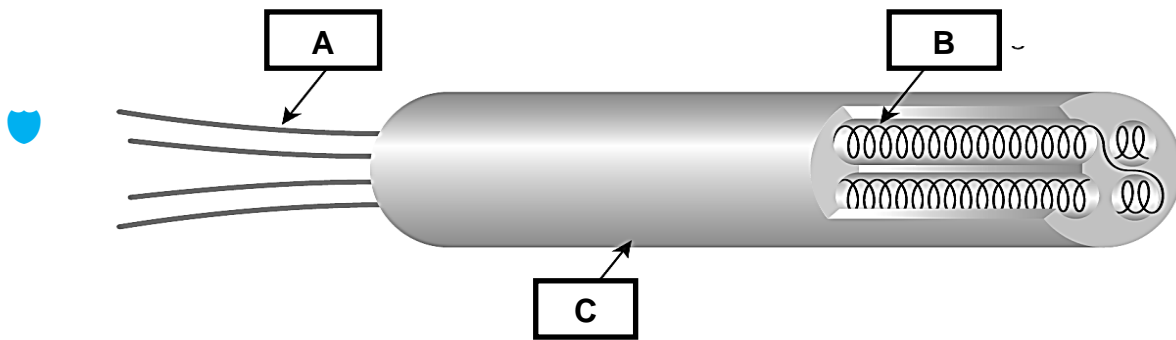

FIGURE 2
2.2 Study the sketch in FIGURE 2 and answer the questions.
- 2.2.1 Name the parts indicated on the sketch in FIGURE 2 by writing only the answer next to the letter (A–C) in the ANSWER BOOK. (3)
- 2.2.2 What is the function of the powder that surrounds B in FIGURE 2? (2)